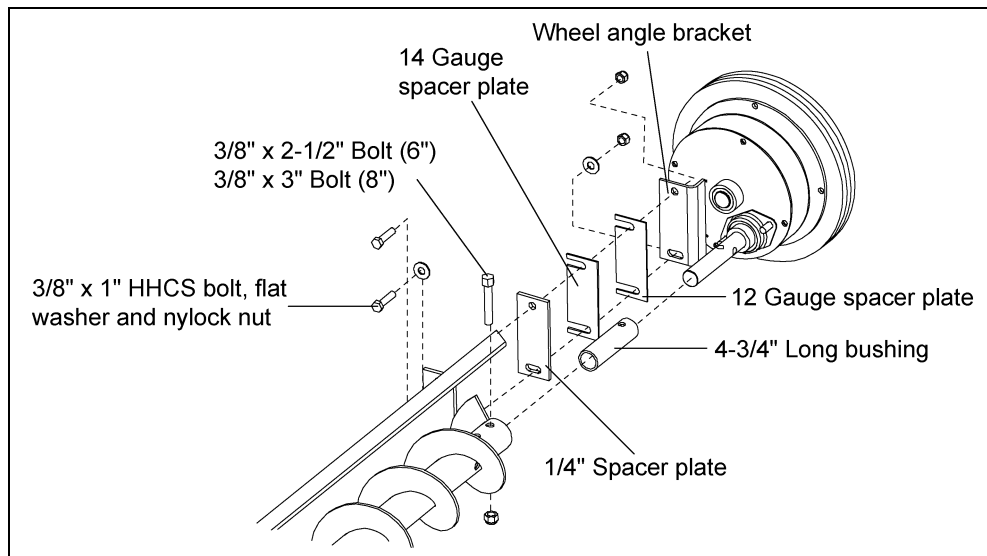
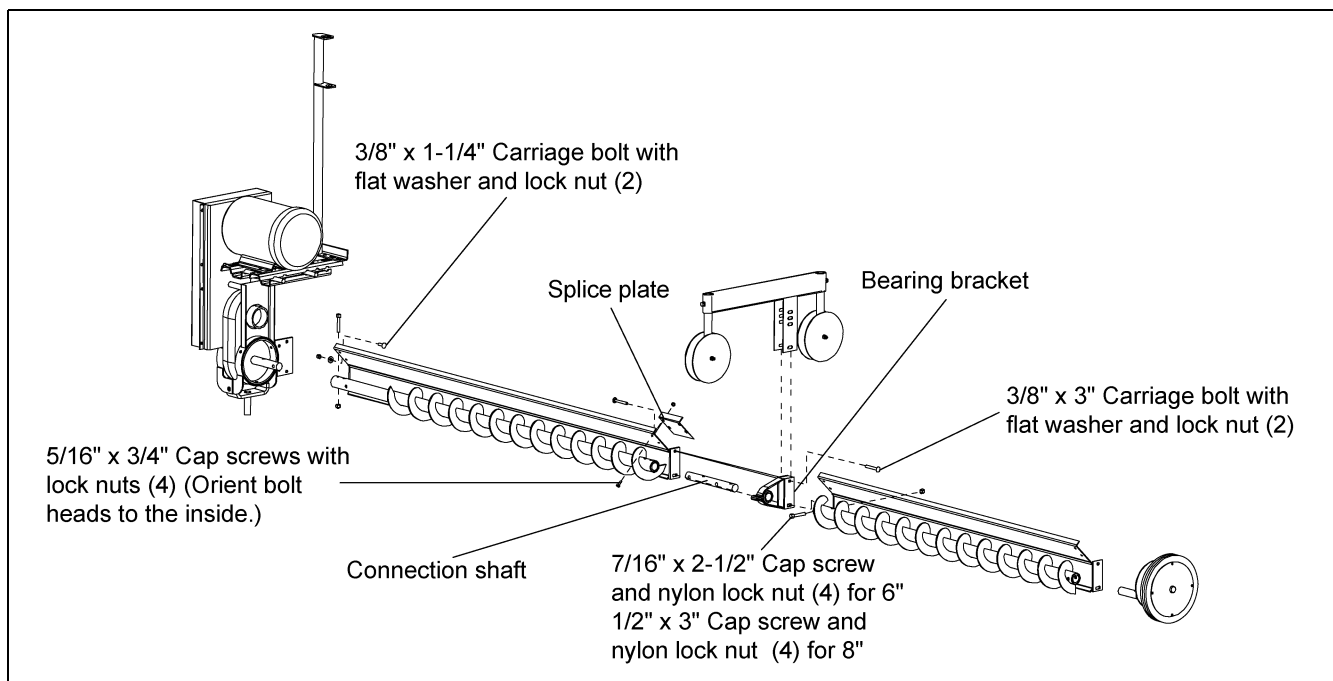

Figure 4E
Figure 4F
3. Bolt the sweep flight with the cutback to the reducer output shaft of the drive assembly using two (2) 7/16" x 2-1/2" HHCS bolts and lock nut. Attach the back shield to the drive frame using two (2) 3/8" x 1-1/4" carriage bolt, flat washers and nylon lock nuts. *(See Figure 4E on Page 19.)*
4. Connect the sweep flights together with the connecting stub shaft using four (4) 7/16" x 2-1/2" HHCS bolts and lock nuts. Be sure to place connecting stub shaft through the bearing bracket before attaching the flight together. *(See Figure 4E on Page 19.)*
- Attach the back shields to the bearing bracket using two (2) $3/8"$ x $3"$ carriage bolts with flat washers and lock nuts. Connect the splice plate to the shields with four (4) $5/16"$ x $3/4"$ HHCS bolts and lock nuts. For bins 48' or larger in diameter, install the sweep carrier at a bearing location in the center or outward of center of sweep length. (See Figure 4E.)
- Connect the reduction sweep wheel to the back shield using $3/8"$ x $1-3/4"$ HHCS bolt, $3/8"$ flat washer and lock nuts. (See Figure 4E and Figure 4F.) Orient the bushing with the bolt hole nearest the wheel. Select one of the two (2) holes in the flight and wheel shaft to line up with the holes in the bushing. Connect them all together using a $3/8"$ x $2-1/2"$ HHCS bolt with lock nut for 6" and a $3/8"$ x $3"$ HHCS bolt with lock nut for 8". Use spacers as necessary to connect the wheel angle bracket to the back shield.